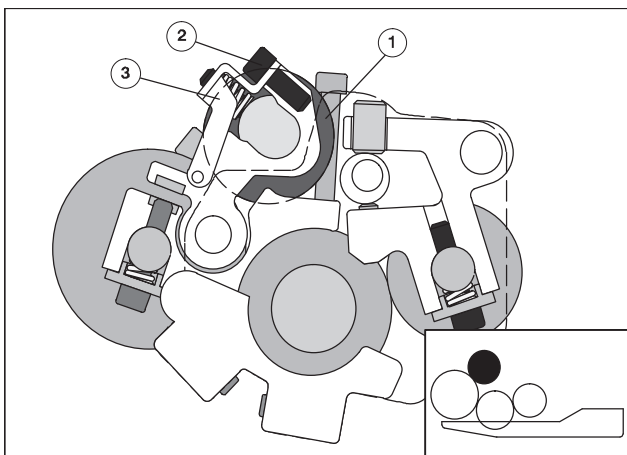

Fig. 41 Removing the dampening distributor
1. Completely unscrew the Allen screws (Fig. 41/2) on D.S. and O.S. using the operator tool, remove screws and swivel bearing caps (Fig. 41/3) upwards.
2. Remove the dampening distributor (Fig. 41/1) with the bearing bushings on the shaft from the bearing.